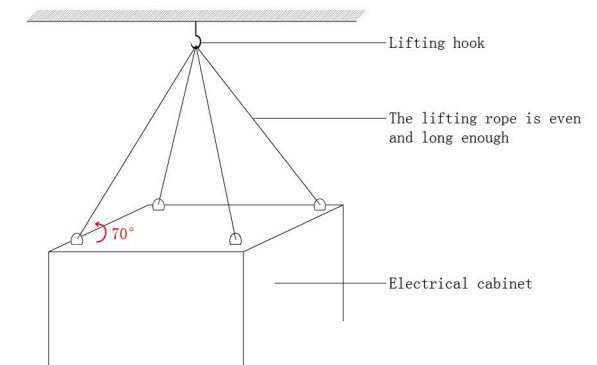

Figure 9 Schematic diagram of correct lifting mode
- 3) When lifting the device, as the device is heavy, it is necessary to fix the four rings on the top of the cabinet diagonally and lift them smoothly. As shown in Figure 9, the two diagonal ropes shall be balanced and thick enough to ensure the weight of the load-bearing device (the length of a single rope shall not be less than 3m), otherwise it may cause deformation of the cabinet.